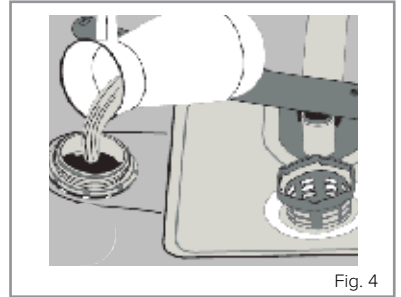

Fig. 4
2. Fill the compartment with dishwasher salt (do not use table salt), carefully to prevent unnecessary spillage (figure 4). Before first use, you should fill the compartment with 1kg of dishwasher salt and then fill up the salt compartment with water (up to the brim of the compartment) as shown in figure 4.